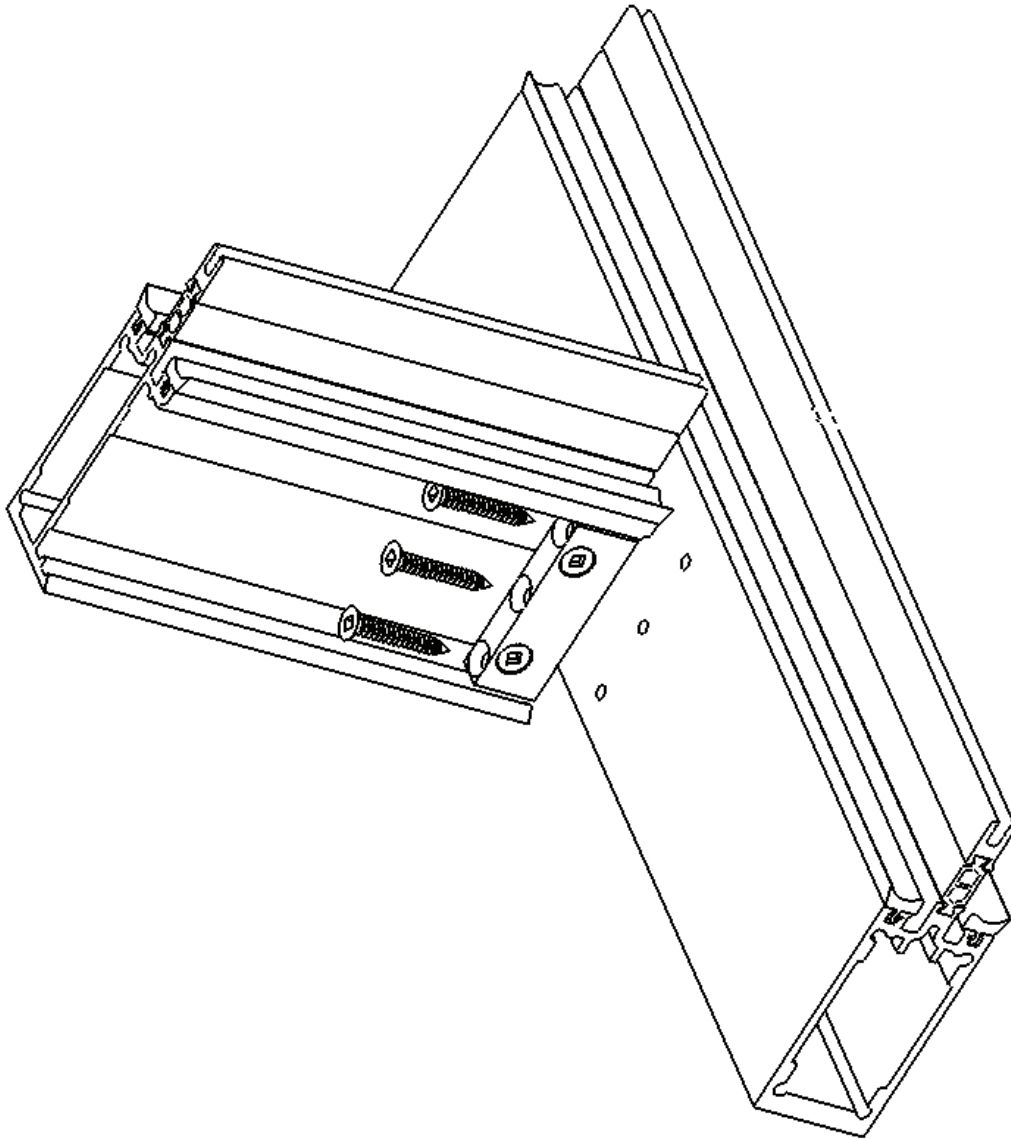

Figure 14
6. Place each of the horizontal T-bars between the vertical T-bars as pictured in Figure 14. The open side of the horizontal T-bar with the pre attached brackets should be facing toward the sill (which will be facing down when the product is finally installed). Secure each end into location with (3) #10 x 1 1/4" screws through the pre attached brackets into the predrilled holes on each of the vertical T-bars. See figure 14.